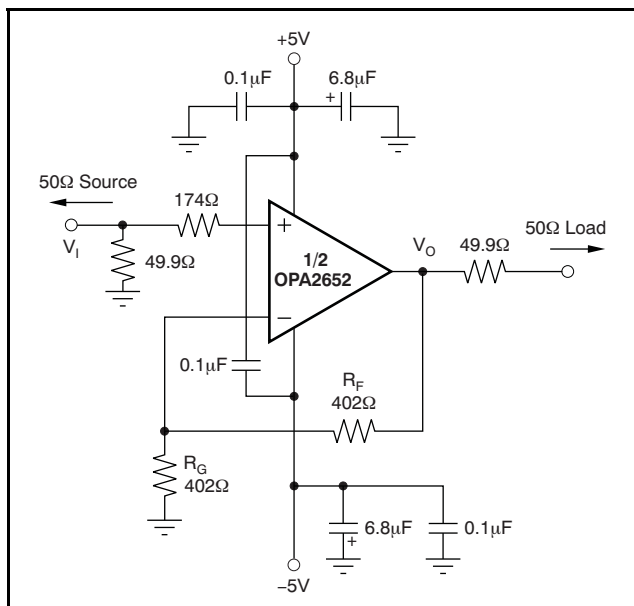
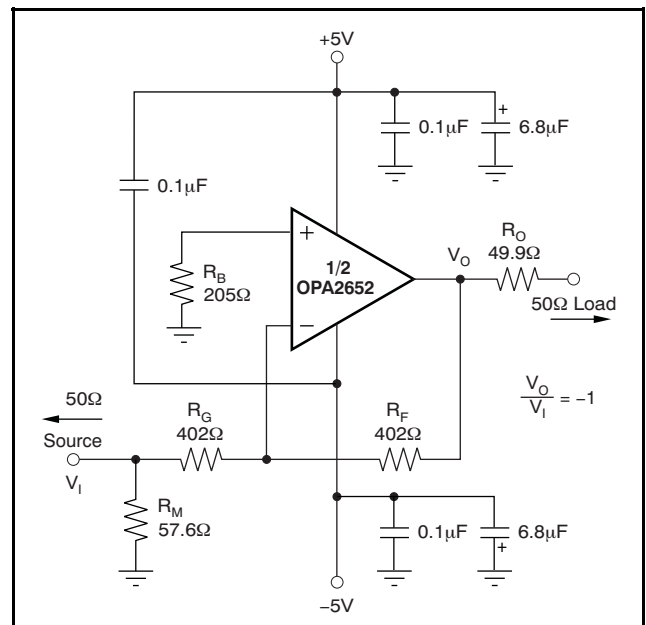

Figure 28. DC-Coupled, $G = +2$, Bipolar Supply, Specification and Test Circuit
Figure 29. DC-Coupled, $G = -1$, Bipolar Supply, Specification and Test Circuit
At $T_A = +25^\circ C$, $G = +2$, $R_F = 402\Omega$, and $R_L = 100\Omega$, unless otherwise noted. See Figure 28 and Figure 29 for AC performance only.
At $T_A = +25^\circ C$, $G = +2$, $R_F = 402\Omega$, and $R_L = 100\Omega$, unless otherwise noted. See Figure 28 and Figure 29.
Figure 28 shows the DC-coupled, gain of +2, dual power-supply circuit configuration used as the basis of the $\pm 5\text{V}$ specifications and typical characteristics. This configuration is for one channel. The other channel is connected similarly. For test purposes, the input impedance is set to 50Ω with a resistor to ground and the output impedance is set to 50Ω with a series output resistor.
Voltage swings reported in the specifications are taken directly at the input and output pins, while output powers (dBm) are at the matched 50Ω load. For the circuit of Figure 28, the total effective load will be $100\Omega \parallel 804\Omega$. Two optional components are included in Figure 28.
Figure 29 shows the DC-coupled, gain of -1 , bipolar supply circuit configuration that is the basis of the specifications and typical characteristics at $G = -1$. The input impedance matching resistor (57.6Ω) used for testing gives a 50Ω input load. A resistor (205Ω) connects the noninverting input to ground. This configuration provides the DC source resistance matching to cancel outputs errors arising from input bias current.
A good rule of thumb is to target the parallel combination of R_F and R_G (see Figure 28) to be less than approximately 300Ω. The combined impedance $R_F \parallel R_G$ interacts with the inverting input capacitance, placing an additional pole in the feedback network, and thus a zero in the forward response. Assuming a 2pF total parasitic on the inverting node, holding $R_F \parallel R_G < 300\Omega$ keeps this pole above 250MHz. By itself, this constraint implies that the feedback resistor R_F can increase to several kΩ at high gains. This increase is acceptable as long as the pole formed by R_F and any parasitic capacitance appearing in parallel is kept out of the frequency range of interest.
Voltage feedback op amps exhibit decreasing closed-loop bandwidth as the signal gain is increased. In theory, this relationship is described by the Gain Bandwidth Product (GBP) shown in the specifications. Ideally, dividing GBP by the noninverting signal gain (also called the Noise Gain, or NG) predicts the closed-loop bandwidth. In practice, this prediction only holds true when the phase margin approaches 90°, as it does in high gain configurations. At low gains (increased feedback factor), most amplifiers exhibit a wider bandwidth and lower phase margin. The OPA2652 is compensated to give a flat response in a noninverting gain of 1 (see Figure 28). This configuration results in a typical gain of +1 bandwidth of 700MHz, far exceeding that predicted by dividing the 200MHz GBP by NG = 1. Increasing the gain
Because the OPA2652 is a general-purpose, wideband voltage feedback op amp, all of the familiar op amp application circuits are available to the designer. Inverting operation is one of the more common requirements and offers several performance benefits. Figure 29 shows a typical inverting configuration.
In the inverting configuration, three key design consideration must be noted. First, the gain resistor (R_G) becomes part of the signal channel input impedance. If input impedance matching is desired (which is beneficial whenever the signal is coupled through a cable, twisted pair, long PCB trace or other transmission line conductor), R_G may be set equal to the required termination value and R_F adjusted to give the desired gain. This approach is the simplest, and results in optimum bandwidth and noise performance. However, at low inverting gains, the resulting feedback resistor value can present a significant load to the amplifier output. For an inverting gain of –1, setting R_G to 50Ω for input matching eliminates the need for R_M but requires a 50Ω feedback resistor. This configuration has the interesting advantage that the noise gain becomes equal to 2 for a 50Ω source impedance—the same as the noninverting circuits considered above. However, the amplifier output now sees the 50Ω feedback resistor in parallel with the external load. In general, the feedback resistor should be limited to the 200Ω to 1.5kΩ range. In this case, it is preferable to increase both the R_F and R_G values as shown in Figure 29, and then achieve the input matching impedance with a third resistor (R_M) to ground. The total input impedance becomes the parallel combination of R_G and R_M .
The second major consideration, touched on in the previous paragraph, is that the signal source impedance becomes part of the noise gain equation and influences the bandwidth. For the example in Figure 29, the R_M value combines in parallel with the external 50Ω source impedance, yielding an effective driving impedance of $50\Omega \parallel 57.6\Omega = 26.8\Omega$. This impedance is added in series with R_G for calculating the noise gain (NG). The resulting NG is 1.94 for Figure 29 (an ideal source would cause NG = 2.00).
error, as a result of the input bias currents, is reduced to (Input Offset Current) • R_F . If the 50 Ω source impedance is DC-coupled in Figure 29, the total resistance to ground on the inverting input will be 429 Ω . Combining this in parallel with the feedback resistor gives 208 Ω , which is close to the $R_B = 205\Omega$ used in Figure 29. To reduce the additional high-frequency noise introduced by this resistor, it is sometimes bypassed with a capacitor. As long as $R_B < 300\Omega$, the capacitor is not required since its total noise contribution is much less than that of the op amp input noise voltage.
The OPA2652 provides good distortion performance into a 100 Ω load on $\pm 5V$ supplies. Increasing the load impedance improves distortion directly. Remember that the total load includes the feedback network; in the noninverting configuration (Figure 28), this is sum of $R_F + R_G$, while in the inverting configuration, it is only R_F . Also, providing an additional supply decoupling capacitor (0.1 μF) between the supply pins (for bipolar operation) improves the 2nd-order distortion slightly (3dB to 6dB).
Evaluating these two equations for the OPA2652 circuit and component values shown in Figure 28 gives a total output spot noise voltage of $17\text{nV}/\sqrt{\text{Hz}}$ and a total equivalent input spot noise voltage of $8.4\text{nV}/\sqrt{\text{Hz}}$. This noise includes the noise added by the bias current cancellation resistor (205Ω) on the noninverting input. This total input-referred spot noise voltage is only slightly higher than the $8\text{nV}/\sqrt{\text{Hz}}$ specification for the op amp voltage noise alone. This result will be the case as long as the impedances appearing at each op amp input are limited to the previously recommend maximum value of 300Ω . Keeping both $(R_F \parallel R_G)$ and the noninverting input source impedance less than 300Ω satisfies both noise and frequency response flatness considerations. Since the resistor-induced noise is relatively negligible, additional capacitive decoupling across the bias current cancellation resistor (R_B) for the inverting op amp configuration of Figure 29 is not required.
The balanced input stage of a wideband voltage feedback op amp allows good output DC accuracy in a wide variety of applications. Although the high-speed input stage does require relatively high input bias current (typically $4\mu\text{A}$ out of each input terminal), the close matching between them may be used to significantly reduce the output DC error caused by this current. This reduction is done by matching the DC source resistances appearing at the two inputs. This matching reduces the output DC error resulting from the input bias currents to the offset current times the feedback resistor. Evaluating the configuration of Figure 28, using worst-case $+25^\circ\text{C}$ input offset voltage and current specifications, gives a worst-case output offset voltage equal to:
As an example, compute the maximum T_J using an OPA2652E (SOT23-8 package) in the circuit of Figure 28 operating at the maximum specified ambient temperature of +85°C and with both outputs driving 2.5V_{DC} into a grounded 100Ω load.